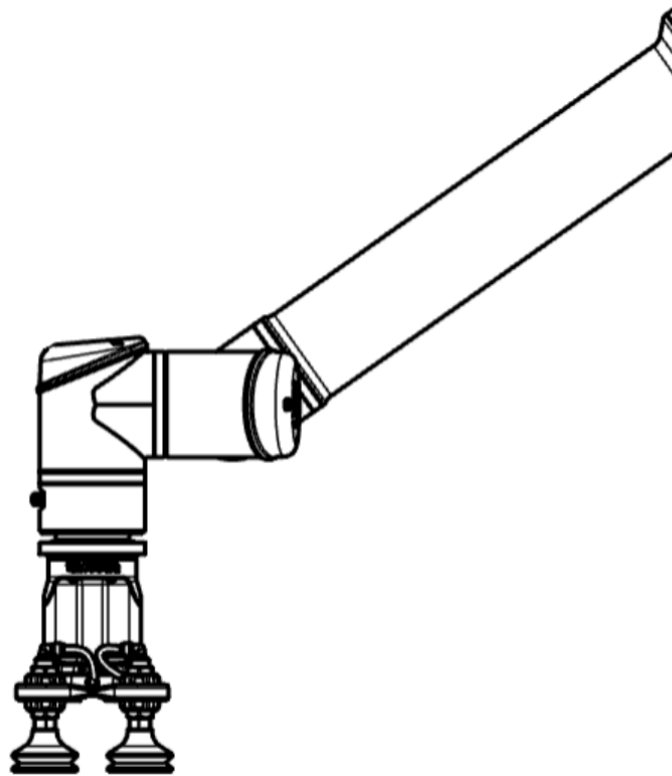

Figure 14: Device vertical orientation
6. Move the device to vertical orientation as shown in Figure 14.
5. Move the device to vertical orientation as shown in Figure 14.